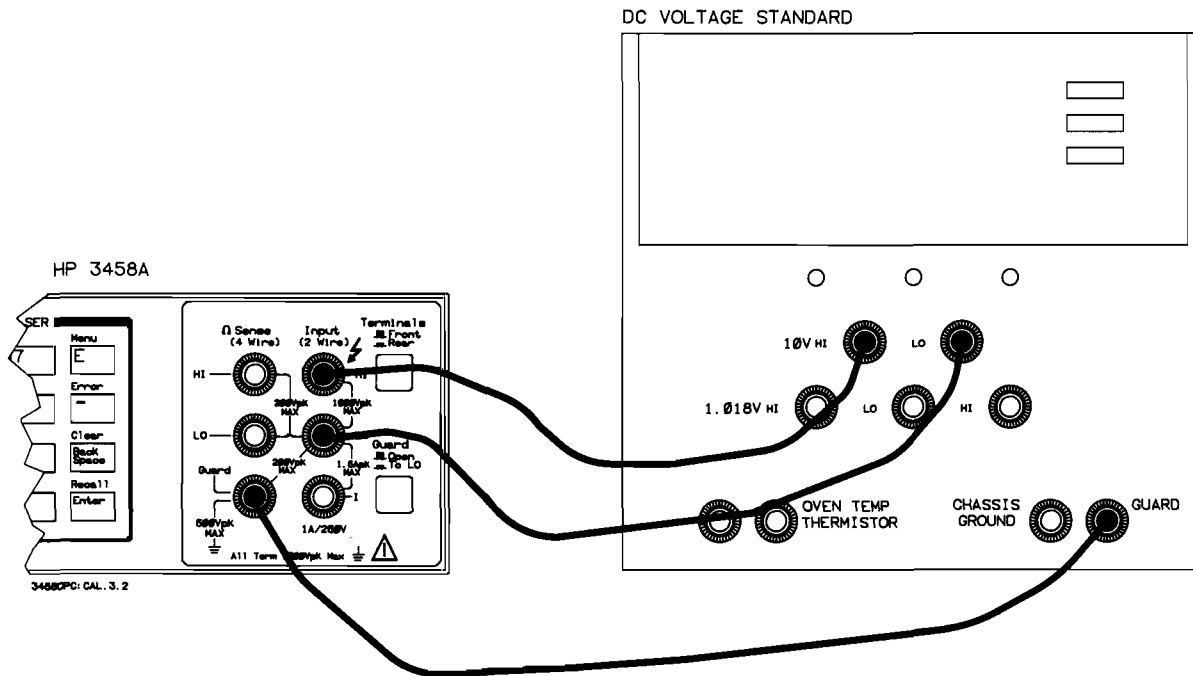
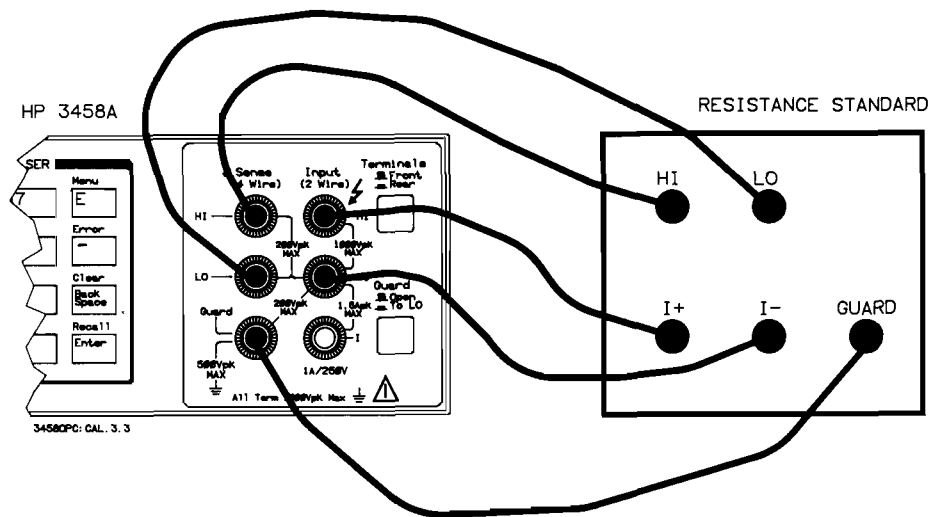

Figure 3-2. DC Gain Adjustment Connections
Figure 3-3. Resistance and DC Current Adjustment Connections
3. Connect the voltage standard to the multimeter's front panel **HI** and **LO Input** terminals as shown in Figure 3-2. If using a **Guard** wire (as shown in Figure 3-2), set the **Guard** switch to the **Open** position. If not using a **Guard** wire, set the **Guard** switch to the **To LO** position.
4. Connect the resistance standard to the multimeter's front panel **HI** and **LO Input** and **HI** and **LO Sense** terminals as shown in Figure 3-3. If using a **Guard** wire (as shown in Figure 3-2), set the **Guard** switch to the **Open** position. If not using a **Guard** wire, set the **Guard** switch to the **To LO** position.